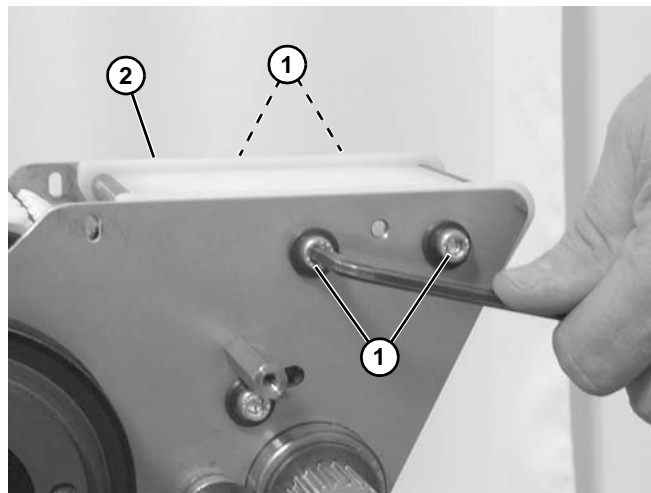

Figure 163
9. Remove four socket head screws (**Figure 163, item 1**) holding wear bar assembly (**Figure 163, item 2**) onto power transfer.